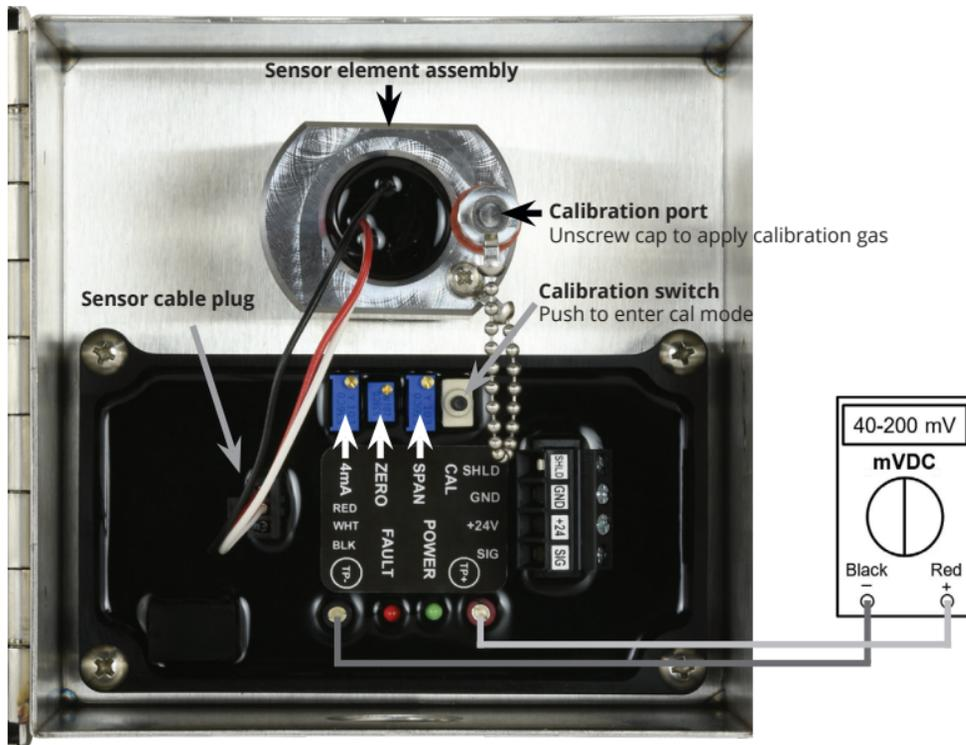

Figure 2: Transmitter and sensor assembly
The GG-VL2-CO2 sensor comes factory calibrated and should require only minimal adjustments after installation. Calibration should be performed every six months. There are three pots on the preamp that are used for calibration (see **Figure 2**).
- Adjust the zero pot until the sensor outputs 40 mVdc from Test [-] to Test [+] (see **Figure 2**).
**Span Calibration:** If span adjustment is required, use the following procedure (see **Figure 2**):
To replace the sensor, refer to **Figure 2** and the following procedure.